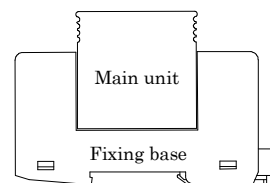

Fig.1 SPD main unit and fixing base
b) When measuring an insulation resistance of the SPD or conducting voltage withstand test, disconnect the SPD main unit from the fixing base. (Ref: Fig.1)